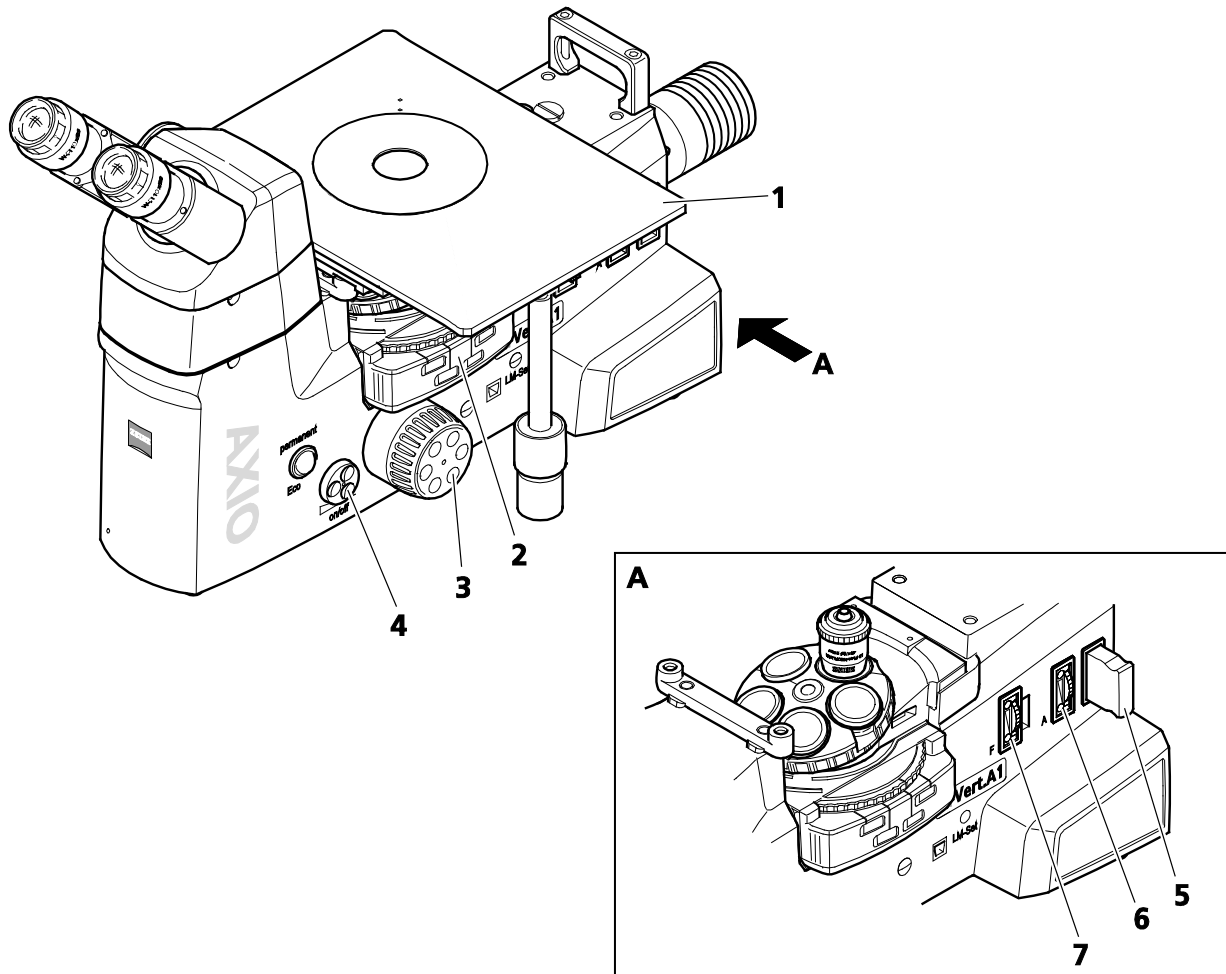

Fig. 4-14 Setting Bright Field
- Place the specimen on the specimen stage (Fig. 4-14/1) and focus at weak magnification, e.g., using the EC Epiplan 10x objective and the focusing drive (Fig. 4-14/3). Set the position for bright field on the reflector turret (Fig. 4-14/2).
- Close the luminous field diaphragm (Fig. 4-14/7) until its edge becomes visible in the field of view. Use ball-headed screwdriver SW 3 to center the luminous field diaphragm to the edge of the field of view.
- Close the aperture diaphragm (Fig. 4-14/6) slightly. Remove the eyepiece.
- If required, adjust the illumination intensity on the **On/off** control button (Fig. 4-14/4) or place a neutral-density filter into the filter slider (Fig. 4-14/5) and slide it into the light path.